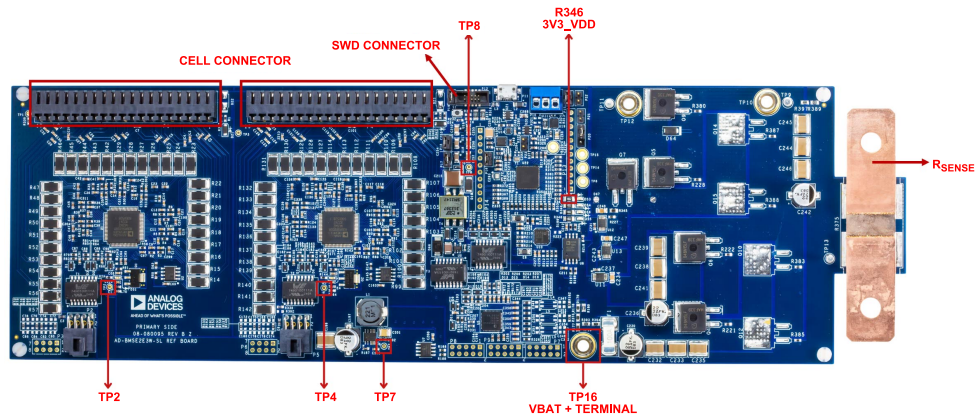

Figure 3. AD-BMSE2E3W-SL Test Points and Connectors
7. Connect the alligator clip cable (red) to the **VBATTP Pin** or the third of the Pin 17 header of the DC2472A battery emulator. Then, insert the other end of the cable (banana jack plug) to the **TP16 (VBAT+ terminal)** of the AD-BMSE2E3W-SL board. See Figure 3 for the pin locations.